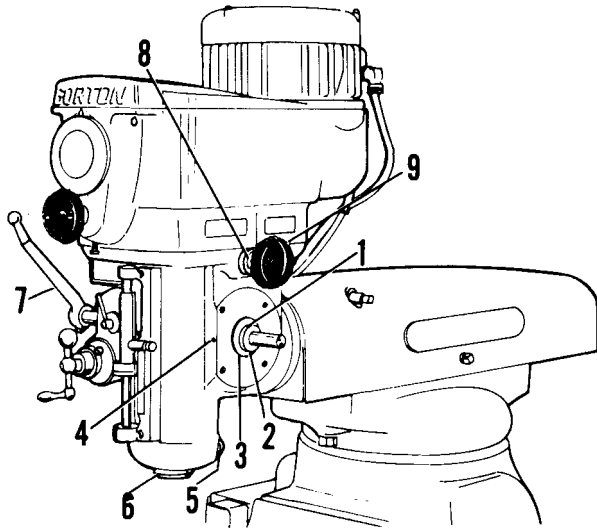
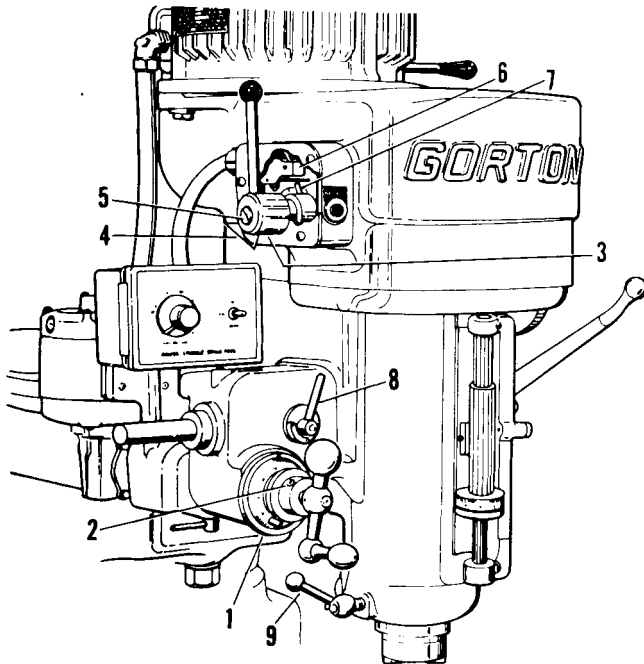

Figure 13. Adjusting Quill Retract Spring And Guide Ring
Figure 14. Adjusting Spindle Down Feed
36. ADJUSTING QUILL RETRACT SPRING (figure 13)
37. ADJUSTING QUILL GUIDE RING (figure 13)
1. When tightening the clamp ring adjusting screw (5), be sure that the spindle sleeve bushing (6) is all the way up in spindle housing nose.
2. With spindle feed hand lever (7), bring quill down 2 or 3 inches. Tighten screw so that quill stays in place.
3. Now tap Allen wrench lightly until screw (5) loosens just enough to permit quill to retract freely. If this clamp ring adjusting screw is too tight, the quill will bind. If too loose, heavy cutting will cause chatter and perhaps "cocking" of spindle sleeve bushing.
38. SPINDLE DOWN FEED (figure 14)
39. ADJUSTING BACK GEAR SHIFTER CLUTCH (figure 13)
40. ADJUSTING SPINDLE BRAKE (figure 14)
4. Engage the clutch in hand feed box by moving the shifter handle (8, figure 14) to the right. This will hold the spindle in the vertical position while the tension spring is being released.
5. Mark the nose of the spindle shaft (20) and the pulley (21), so that the splines can be re-mated in the same position during reassembly.
6. Remove the two capscrews (8) and the complete micrometer depth stop assembly (9).
7. Remove the two button head screws (14) and slot cover shield (13). Remove the two capscrews (10), the depth stop cover plate (7) and bracket (11).
8. Loosen the setscrews (18) and slide the feed shaft collar (17) to the right.
9. Place a pin spanner wrench in two holes of the retainer (16) so the spindle spring (15) will not recoil rapidly when the setscrew (4, figure 13) is released.